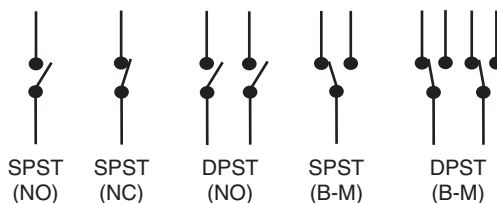

FIGURE 10-6 Relay types.
If the integrated system uses electromechanical relays, it includes one or more individual switches (each switch is referred to as a pole). Each one of these switches or poles can be connected or thrown together by energizing the relay’s coil. This action is described as make (M) or break (B); for example, a simple relay with one set of contacts would be described as Single Pole Double Throw (break before make) or SPDT (B-M). These are examples of the more common contact types for relays in circuit or schematic diagrams, but there are many more possible configurations. The following are more common relay designations (see Figure 10-6):